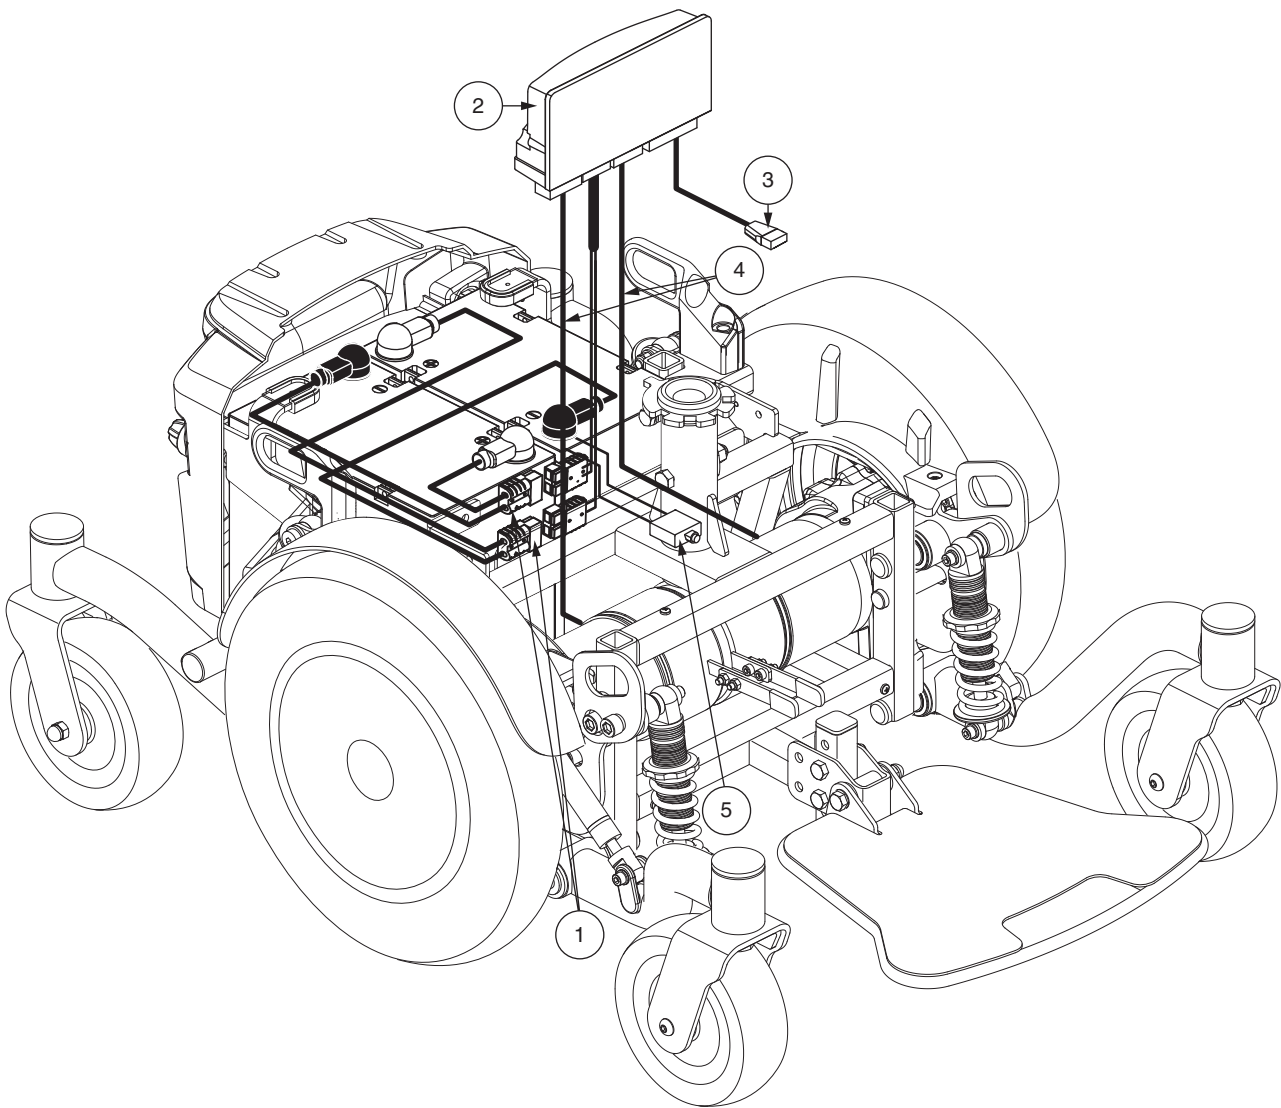

Figure 3. Jazzy EVO 614 Series Electrical Components
The electrical components are located on or inside the power base. The main circuit breaker is located on the front of the power base. The power module is located inside the power base. **See figure 3.**
4. Plug the controller harness into the connector on the power base. See figure 3.